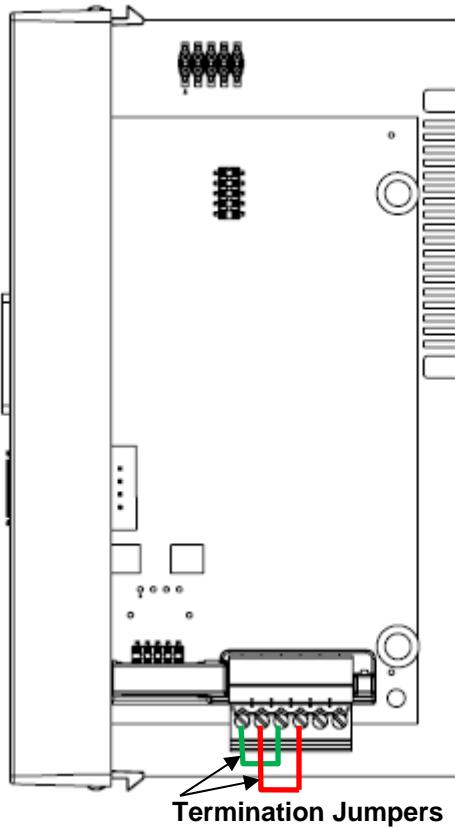

Figure 3-38. IEC62591 Module – Connecting Termination Jumpers
**Connection** You can install the IEC62591 interface module assembly in an open I/O slot in the ControlWave Micro except, due to a mechanical restriction, it cannot reside in the last slot of any housing. You must connect an RS-485 cable between the RS-485 port on the module, and the Smart Wireless Field Link. This requires a Belden 2-twisted pair cable. *Table 3-41* shows connections for the twisted pair cable. You must also connect termination jumper wires as shown in *Figure 3-38*.